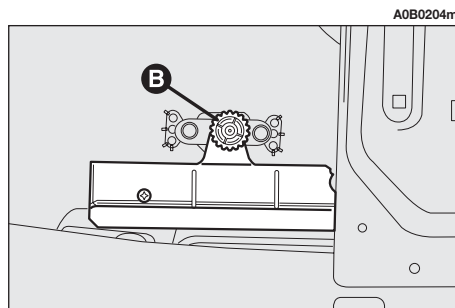

fig. 49
- Slacken the knob (**B-fig. 49**) and withdraw the complete unit.